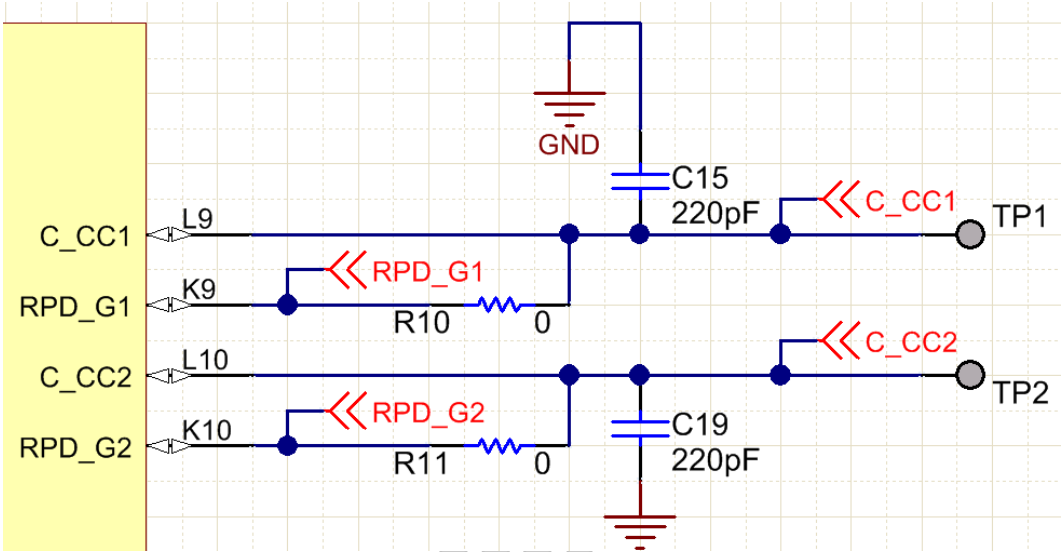

Figure 10. CC1/CC2 Paths
- Verify that there is not a pulldown on CC1/CC2 (Figure 10)